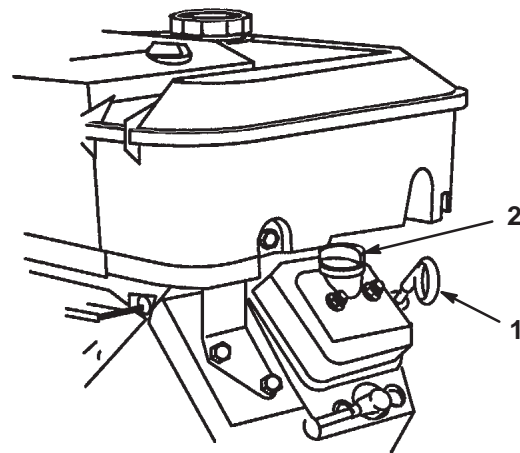

Figure 2
2. Clean around the oil dipstick (Fig. 2) so dirt cannot fall into the hole and damage the engine.
4. Slide the oil dipstick fully into the filler tube, but do not thread it onto the tube. Pull the dipstick out and look at the metal end. If the oil level is low, remove the filler cap from the valve cover (Fig. 2) and pour oil into the opening until the oil level is up to the "FULL" mark on the dipstick; refer to Servicing the Engine Oil, page 21, for the proper oil type and viscosity. Add the oil slowly and check the level often during this process. **Do not overfill.**